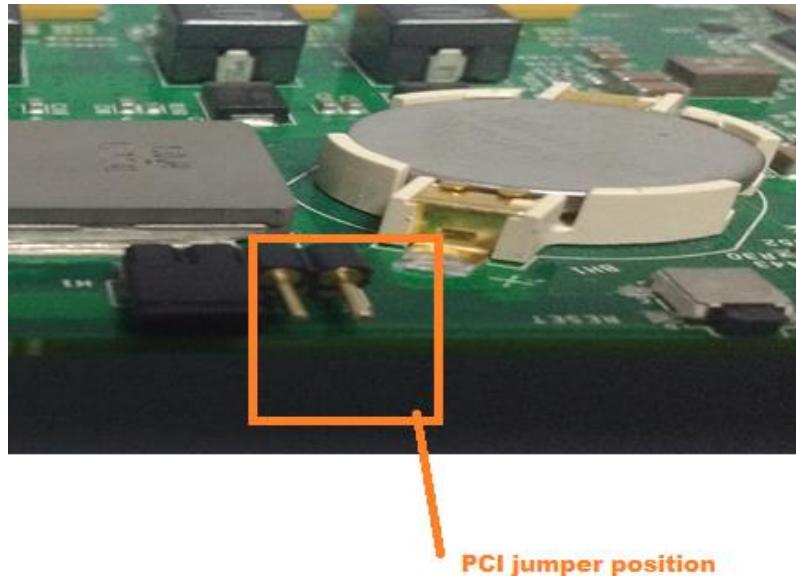

Figure 9: PCIe CLK selection Jumper
- Insert the SD card and USB into the SD/SDHC card and USB slot as shown in the Figure 9 and figure 3 respectively.